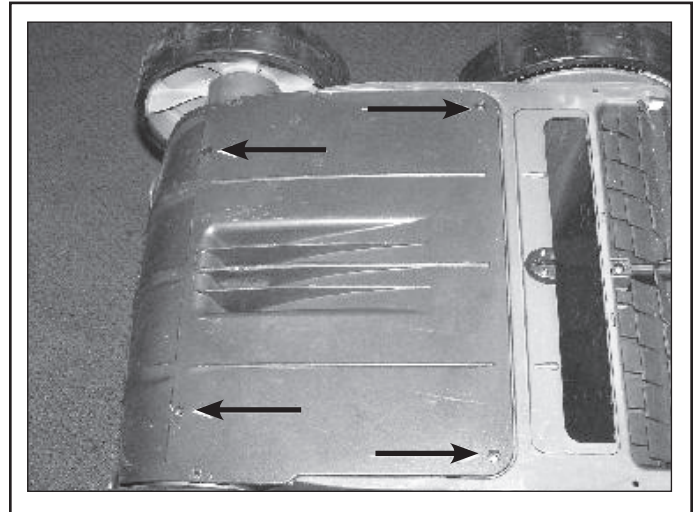

Figure 8. Remove the Propeller Guard
4. Remove the four (4) screws from the bottom of the cleaner. Remove the bottom plate/motor block (see Figure 8).